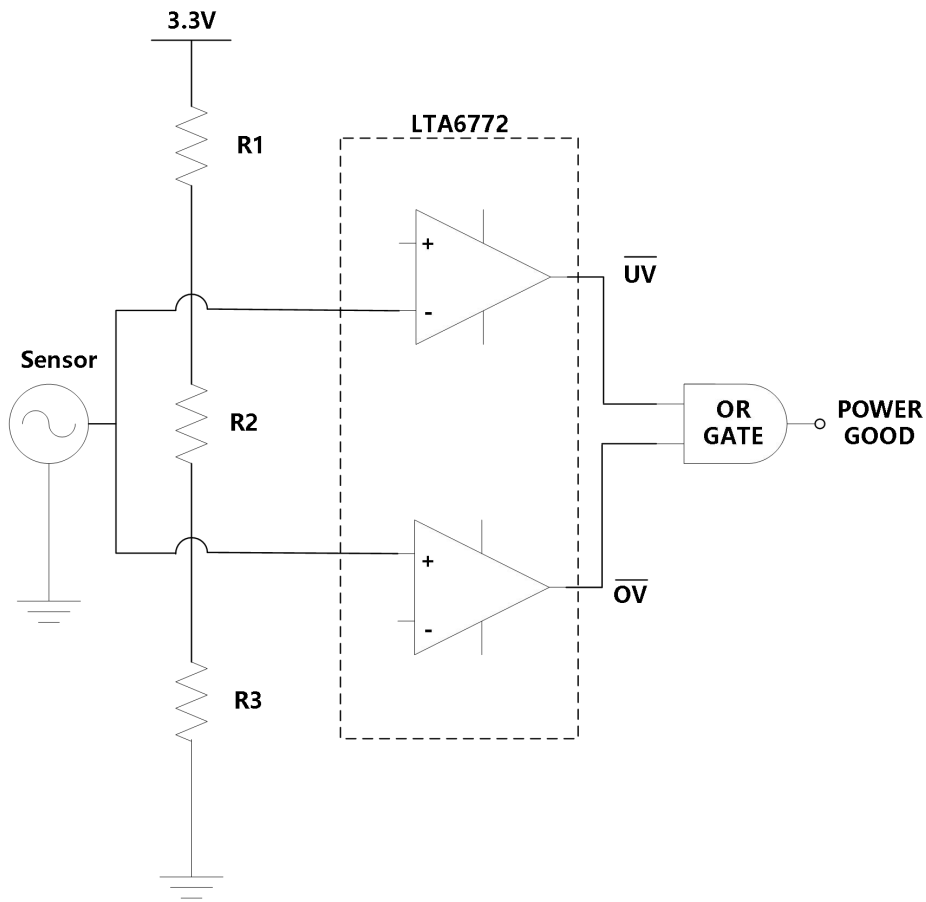

Figure 22: Window Comparator
Window Comparators are commonly used to detect undervoltage (UV) and overvoltage (OV) conditions. Figure 22 shows a simple window comparator circuit.
Configure the circuit as shown in Figure 22. Connect  $V_{S+}$  to a 3.3 V power supply and  $V_{S-}$  to ground. Make R1, R2 and R3 each 10Mohm resistors. These three resistors are used to create the positive and negative thresholds for the window comparator ( $V_{TH+}$  and  $V_{TH-}$ ). With each resistor being equal,  $V_{TH+}$  is 2.2 V and  $V_{TH-}$  is 1.1 V. Large resistor values such as 10Mohm are used to minimize power consumption. The sensor output voltage is applied to the inverting and non-inverting inputs of the 2-channel LTA6772's. The respective comparator outputs will be low when the sensor is less than 1.1 V or greater than 2.2 V.  $V_{OUT}$  will be high when the sensor is in the range of 1.1 V to 2.2 V. See the application curve in Figure 23.